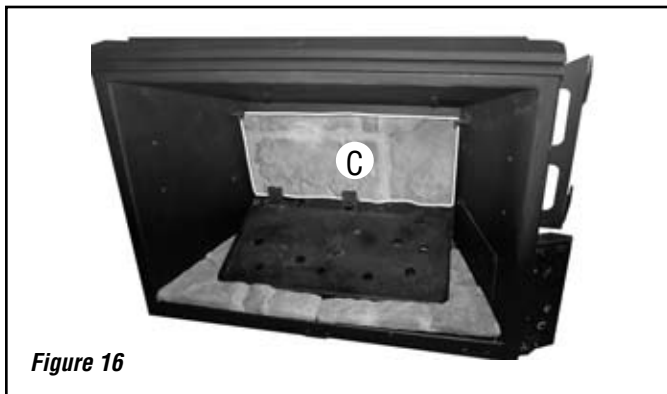

Figure 16
2. Next place the rear panel (C). It will set on the bracket mounted to the blower mounting plate on the back of the firebox. See **Figure 16**.